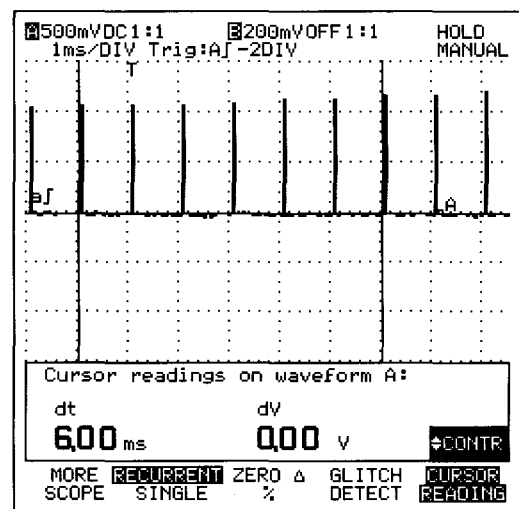

Figure 4.15 Cursor lines on marker pulses
- I Adjust the INPUT A attenuator with the mV-RANGE-V key to 20 mV/div. The display must show a line as indicated in figure 4.15.